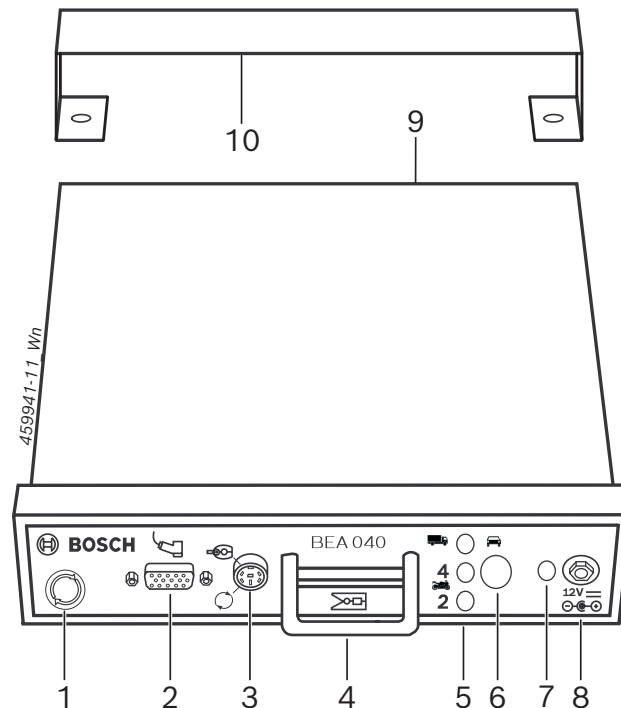

Fig. 1: BEA 040
The mode button (Fig. 1, item 6) selects a different mode (car/truck or 2-stroke/4-stroke motorcycle) each time it is pressed. The mode selected is indicated by the corresponding mode LED (Fig. 1, item 5).
The power supply unit voltage LED (Fig. 1, item 7) lights (blue) when the power supply unit is connected.